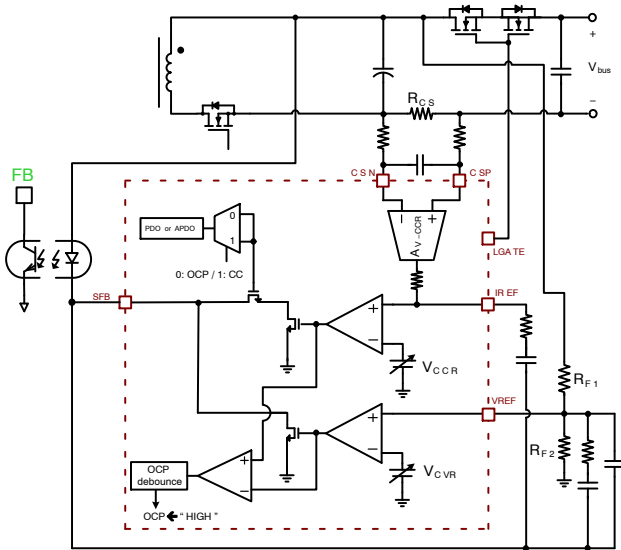
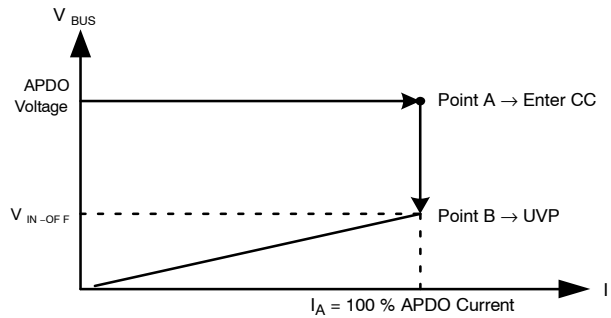

Figure 20. Voltage and Current Sensing Circuits
Figure 21. APDO/PDO CC Operation
In order to regulate adaptive output voltages, the constant voltage control (CV) is implemented. The output voltage is sensed through an external resistor divider. The sensed output voltage is connected to the VREF pin, and it is input the non-inverting input terminal of the internal operational amplifier. The inverting input terminal is connected to the internal voltage reference (V_{CVR}) which can be adjusted according to the requested output voltage. The amplifier and an internal switch operate as a shunt regulator, and the output of the shunt regulator is connected to the external opto-coupler via SFB pin. To compensate output voltage regulation, typically, two capacitors and one resistor are connected between SFB and VREF pins as Figure 20. The
Constant current (CC) control is enabled during USB PD APDO and PDO contracts (PPS modes). When CC mode is enabled, the supply will foldback the output voltage as the load increases in order to maintain a fixed output current as shown in Figure 21. Output current is sensed via a current-sense resistor R_{CS} , which is connected between the CSP and CSN pins. The sensed signal is internally amplified, and this amplified voltage is connected to the non-inverting input of the internal operational amplifier. Similar to the constant voltage amplifier circuit, it also plays a role as a shunt regulator to regulate the constant output current. In order to compensate output current regulation, one capacitor and one resistor are connected between the IREF and SFB pins as shown in Figure 20. The constant output current can be calculated using equation 2. $5\text{ m}\Omega$ is typically used for the sense resistor.